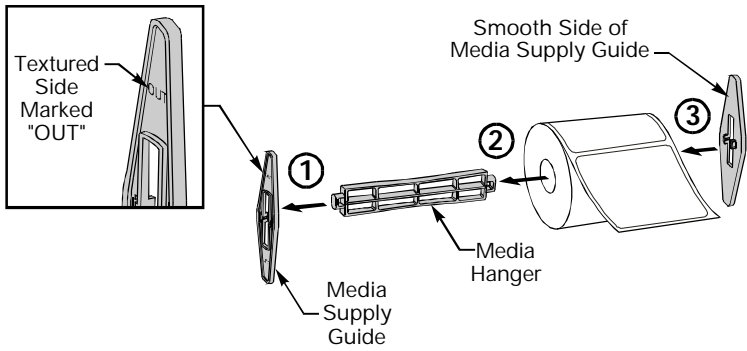

Figure 11
2. Insert one end of the media hanger into one of the media supply guides (refer to Figure 11).
4. Place the second media supply guide onto the other end of the media hanger (refer to Figure 11).